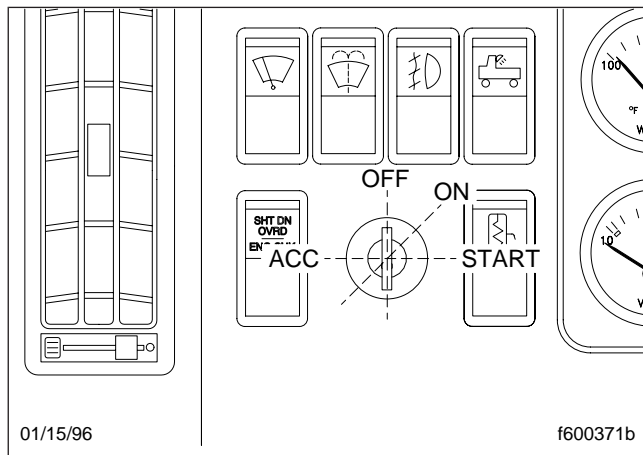

Fig. 4.1, Ignition Switch Positions
1. Turn the ignition switch to the on position (Fig. 4.1). All the electronic gauges on the ICU (instrumentation control unit) complete a full sweep of their dials, the warning and indicator lights light up, and the buzzer sounds for three seconds.
1. Turn the ignition switch to the on position (Fig. 4.1). The amber CHECK ENGINE indicator comes on for five seconds.
1. Turn the ignition switch to the on position (Fig. 4.1). The amber CHECK ENGINE indicator comes on for five seconds. Leave the ignition switch on until the CHECK ENGINE indicator goes out.
1. Turn the ignition switch to the on position (Fig. 4.1). The CHECK ENGINE and ENGINE PROTECT indicators should come on and go out within six to ten seconds.
The intake air preheater is activated by turning the ignition switch to the on position (**Fig. 4.1**). If the engine is at normal temperature, the amber INTAKE HEATER indicator goes out after two seconds.
Turn the ignition switch to the on position (**Fig. 4.1**). If the engine is at normal temperature, the amber INTAKE HEATER indicator goes out after two seconds.